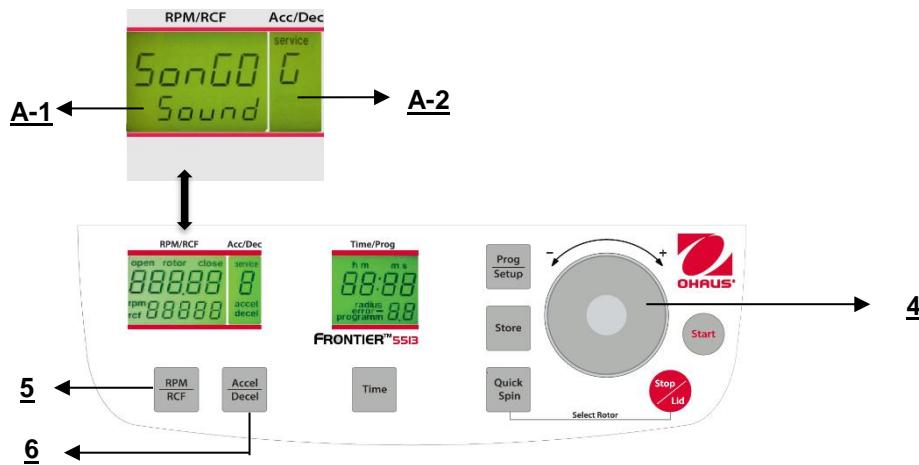

Figure. 32
Proceed as described under point 4.1.2 to enter this program mode and then press the key "Accel/Decel" (6). In the display "Acc/Dec" (A-2) the word "Service" flashes. Now select the letter "G". with the adjusting dial (4). As a result, in the display "RPM/RCF" (A-1), the word "SonGo/Sound" appears. After pressing the key "RPM/RCF" (5), you can select a song with the adjusting dial (4). (See figure 32).